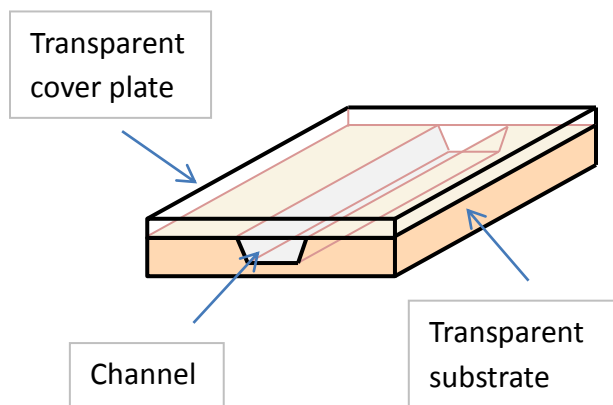
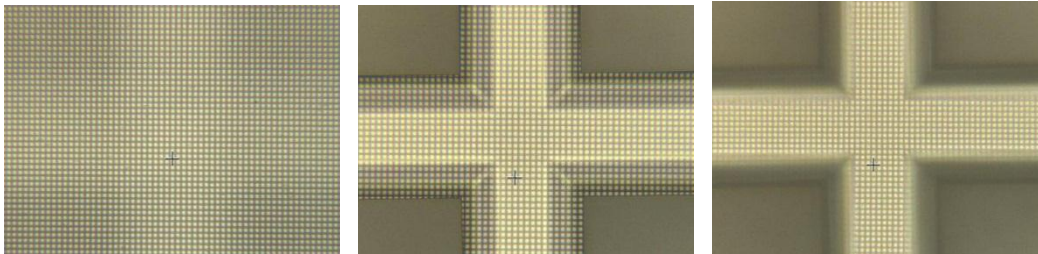

Fig. 87. Structure with open channel under transparent layer
Fig. 88. Live video of Z dots at three Z positions for buried channel structure
Multi-surface scanning is intended for samples such as the one shown in Fig. 87. A transparent layer covers an open channel which is formed in an underlying layer. Measuring the thickness of the cover plate and the depth of the channel is possible by using multi-surface scanning.
A multi-surface scan divides a standard scan into three vertical sections: top, middle, and bottom. Each section contains one of the surfaces of interest. In Fig. 87 the top surface is the top of the cover plate, the middle surface is the bottom of the cover plate (which is also the top of the channel), and the bottom surface is the bottom of the channel. The Zeta-20 system looks for the best focus within each section and assigns that Z height to the surface which corresponds to the section. You can then view the three surfaces together or separately and calculate the distances between the surfaces.
3. Continue lowering the head to find the Z height of the bottom surface. Fig. 88 shows the appearance of the live video image at the three focus positions for a sample similar to the structure in Fig. 87. The Z dots are clearly seen at only three Z heights, which correspond to the top surface, the bottom surface of the top transparent layer (but note that the Z dots only appear over the open channel), and the bottom of the channel.